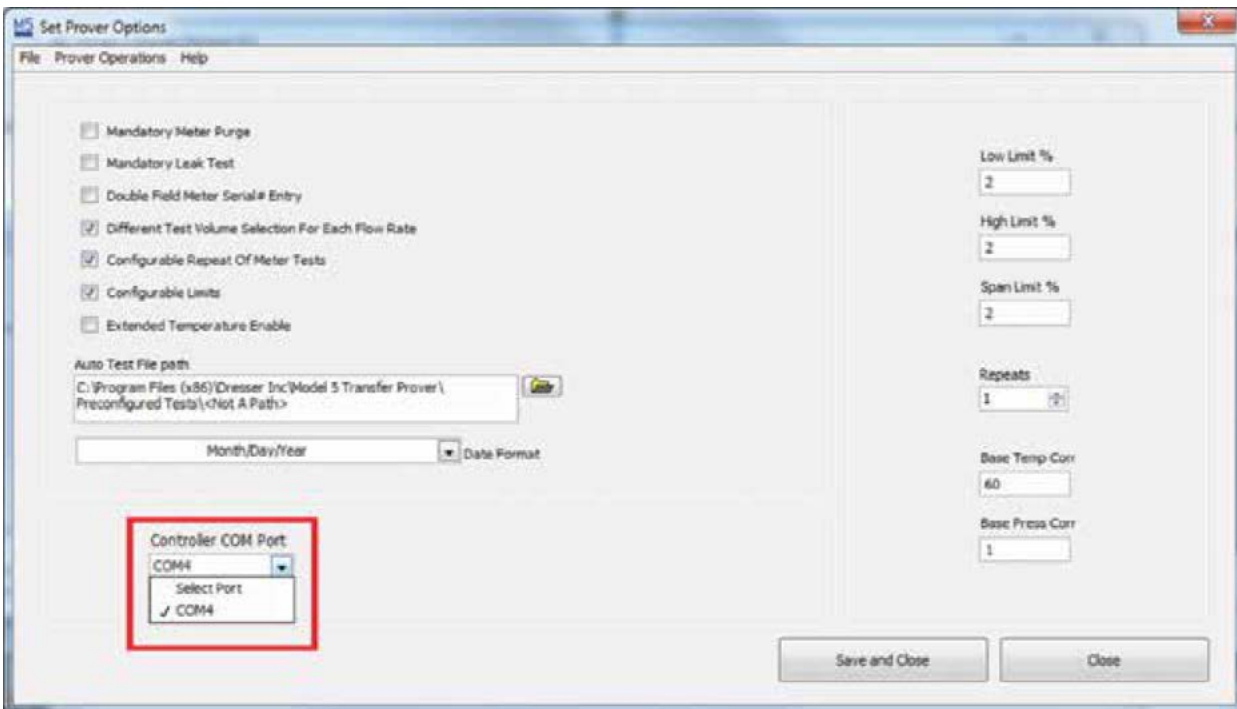

Figure 24: Prover Setup Screen and Controller COM Port
- A second window will appear as shown in Figure 24. Take note of the Control COM Port Field. Notice, only COM Ports in use are available for selection. Select the COM port (Refer to Step 2.)